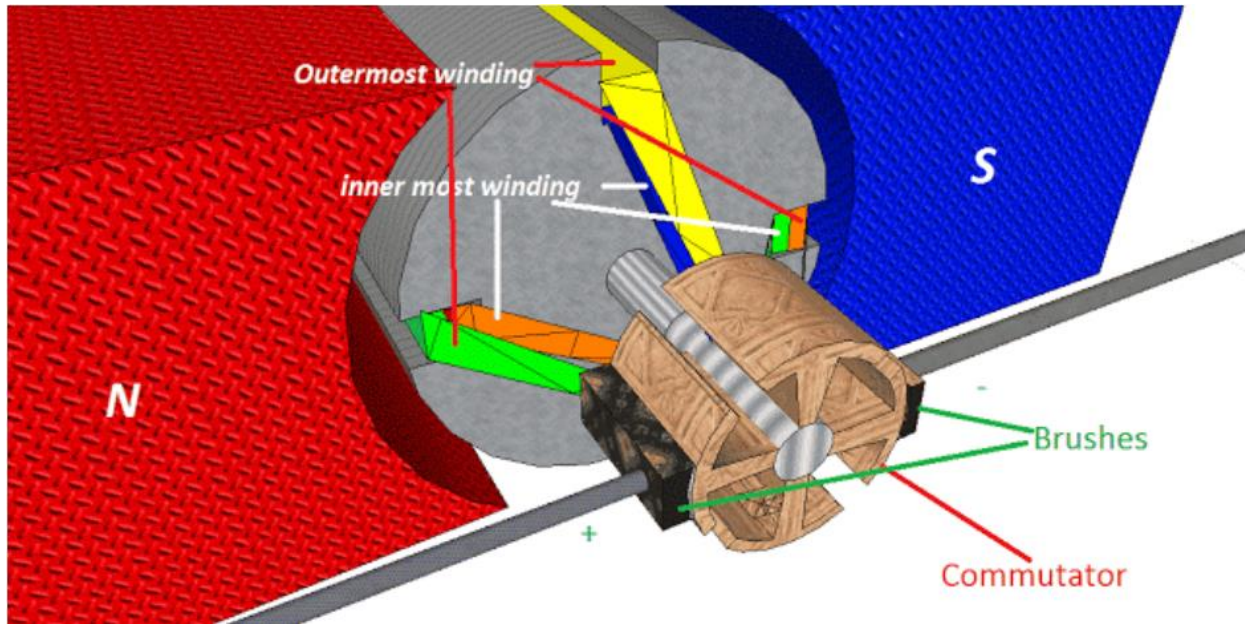
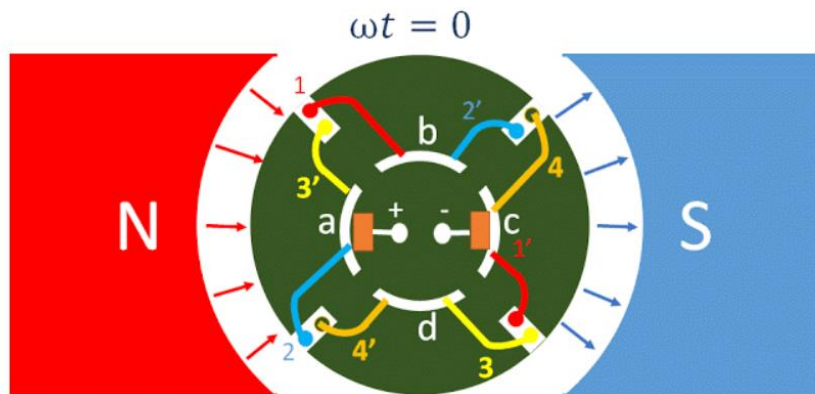
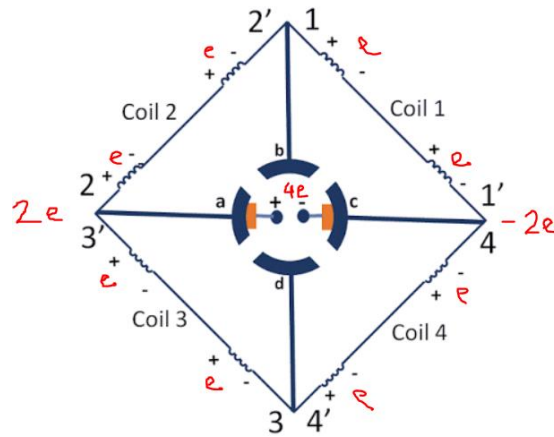

Figure 4.8: An armature with four slots, four loops and four commutator segments
Figure 4.9: 2-D image of armature with four slots, four coils, and four armature slots
Figure 4.10: Armature coil arrangement in 2-D
Most of the armatures have either same number of coils as the number of slots or more coils fitted into lesser number of slots. Each coil can have multiple turns as well, and each turn or loop has one conductor on each side, i.e., total two conductors for one turn. Observe in *figure 4.8* how four loops are fitted into four slots.
In figure 4.8, armature of DC machine is shown placed in between the permanent poles of a magnet. Four loops with yellow, blue, green and orange color form armature winding and ends of these loops are connected with the commutator of the machine. Outermost and innermost wires of loops around the rotor are represented. The commutator is touching the carbon brushes and direction of rotation is such that polarities of brushes are '+' and '-', as shown.
Consider figure 4.8 in 2-D at moment  $\omega t = 0$  in figure 4.9. Four loops are shown with red, yellow, blue and orange color. The outermost wires of every loop are labeled with numbers 1, 2, 3 and 4, whereas innermost wire is labeled with prime over a number, i.e. 1', 2', 3' and 4'. *a*, *b*, *c* and *d* represent four commutator segments.
Observe that the outermost wire of the blue loop (2) is connected to commutator segment  $a$ , whereas innermost wire (2') is connected to  $b$ . Similarly outermost wire of the orange coil (4) is connected to  $c$ , whereas innermost wire (4') is connected to segment  $d$ . Red wire, 1 and 1', are connected to  $b$  and  $c$ , whereas yellow wire, 3 and 3', are connected to  $d$  and  $a$  respectively. Now if we draw the armature windings from figure 4.9 in 2-D then the polarity over segments is due to connections with brushes, as shown in figure 4.10.
Observe from figure 4.9 that wire terminals 1, 3', 2 and 4' are under magnetic force of the North Pole, whereas 1', 3, 2' and 4 ends are under magnetic force of the South Pole. Assume that each loop has a voltage contribution of  $e$ . In the present case, all four loops are lying within poles so overall voltage is  $E_{ind} = 4e$  between brushes  $a$  and  $b$ .